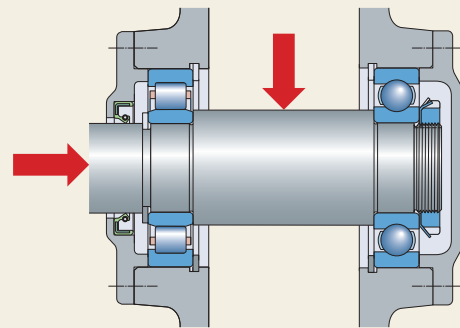

Fig. 5
- double row angular contact ball bearing / NU or N design cylindrical roller bearing (fig. 5)